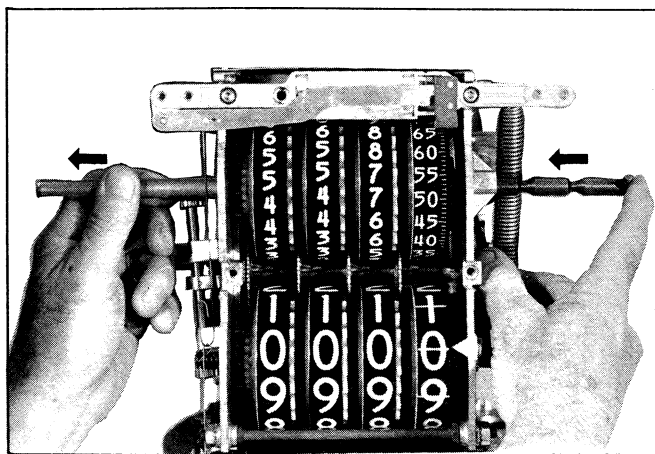

Figure 31. Pushing out long dummy shaft with wheel shaft.
- f. Insert wheel shaft into open slotted end of long dummy shaft from dashpot side of computer and gently push out long dummy shaft, Figure 31. Be certain the wheel shaft pin is resting in the slot on the dashpot side of the computer.